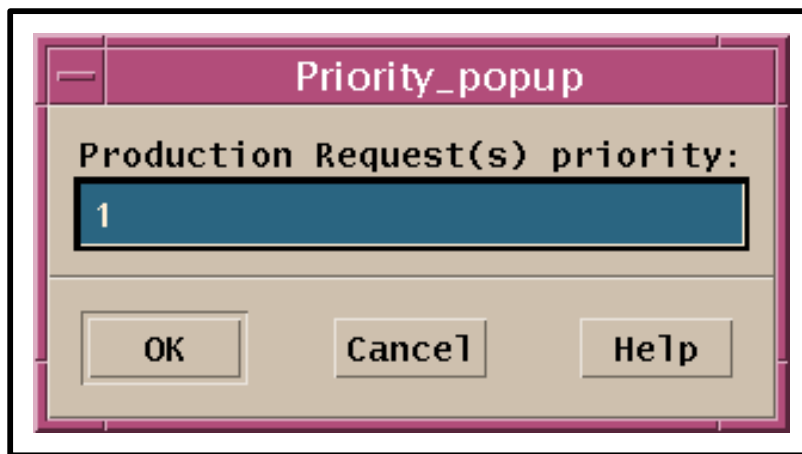

Figure 43. Priority Popup Window
- The **Priority popup** window (Figure 43) is displayed.